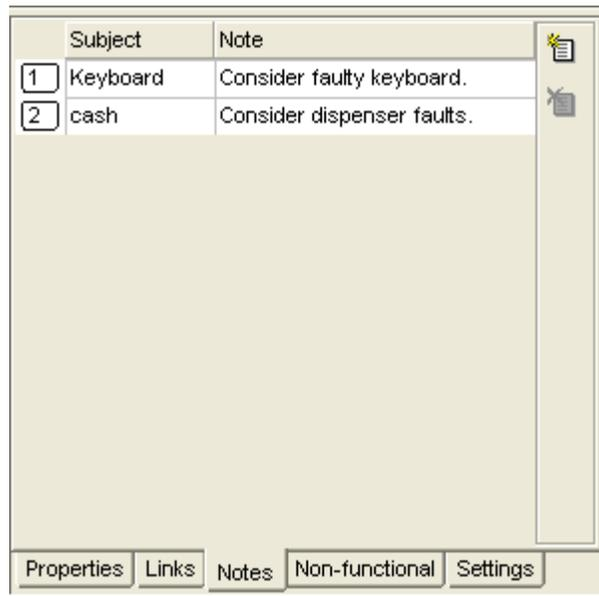

Figure 20 - Project Notes tab screen
- To access these, click on the Notes tab, and the screen shown Figure 20 below will appear. See Table 3 below, for details.